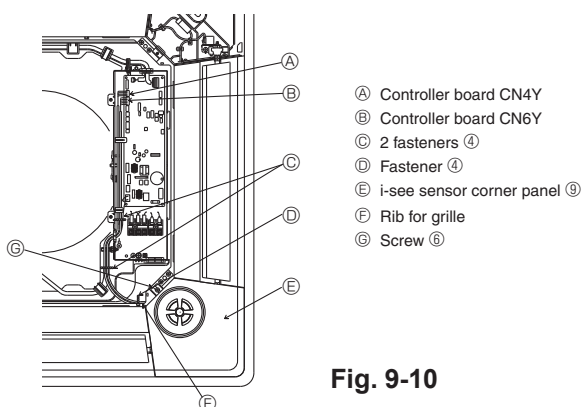

Fig. 9-10
- ① Refrigerant piping of the main unit
- ② Drain piping of the main unit
- ③ Initial position of the corner panel (logo attached)
- ④ Initial position of the levers on the intake grille
- ⑤ Receiver (Only PLP-6BALM, PLP-6BALME panel)
- ⑥ i-see sensor (PLP-6BAE, PLP-6BAMDE, PLP-6BALME panel)
9.6. Installation of i-see sensor corner panel (Fig. 9-10)